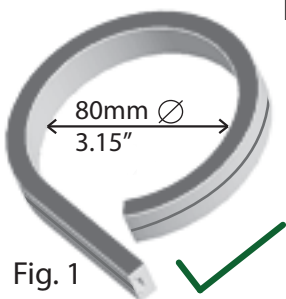

Fig. 1
- 1) Do not bend past the minimum diameter (80mm/3.15") to avoid damage to internal components of the product (Fig.1). Colored stripe side of product should face exterior of bend (Fig. 1)